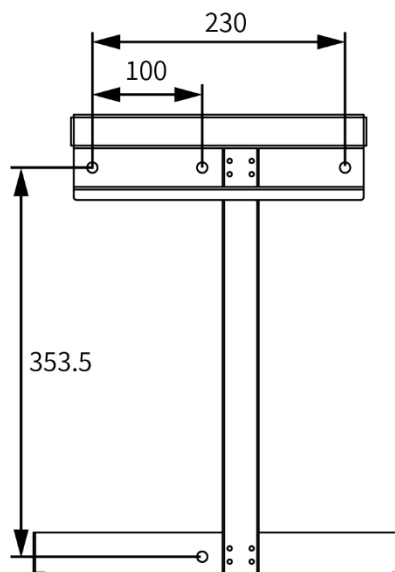

Figure 5-9 Making the puncturing area (Unit: mm)
Step 1 Determine the punching positions according to the inverter installation dimensions diagram shown in Figure 5-9.